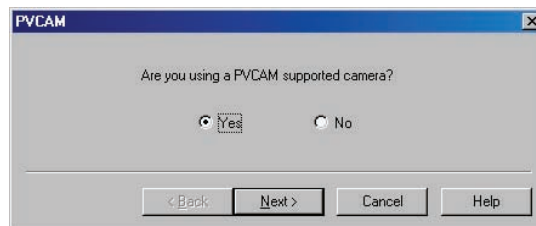

Figure 64. Hardware Wizard: PVCAM dialog box
- When the PVCAM dialog box (Figure 64) is displayed, click in the **Yes** radio button, click on **Next** and continue through the Wizard. After the Wizard is finished, the **Controller/Camera** tab page will be displayed with the **Use PVCAM** checkbox selected. You should now be able to acquire data.